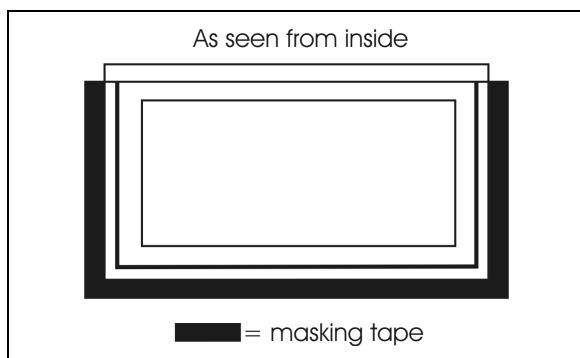

FIGURE 63: MASKING TAPE APPLICATION
4. Place masking tape on the inside of the frame as per FIGURE 63.